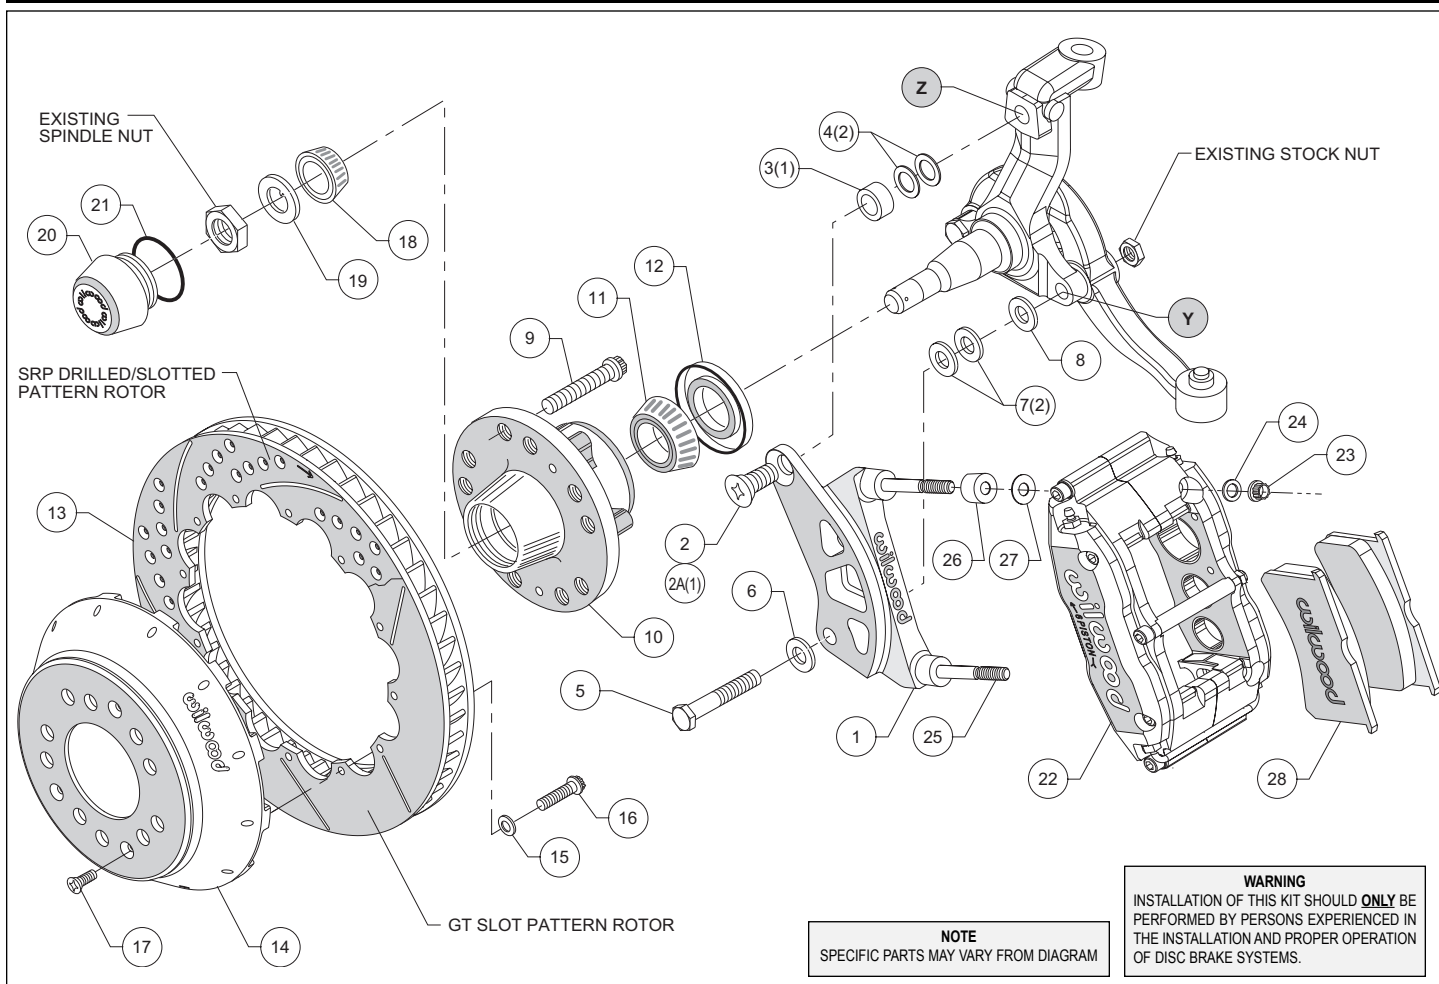
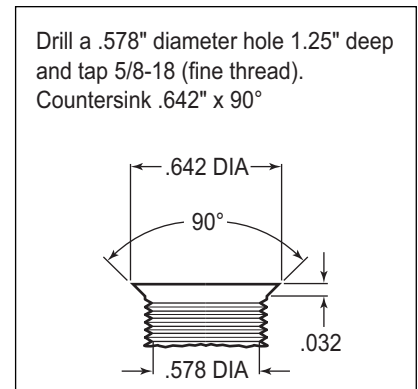

Figure 1. Typical Installation Configuration
Figure 3. Drill and Tap Detail
- NOTE:** 1964-66 spindles may require the following modifications (reference figure 1 and 3): Top anchor pin hole (Z) must be drilled and tapped to the dimensions as outlined in figure 3. Bottom rear steering arm bolt hole (Y) in the spindle and steering arm must be enlarged to .50" by drilling. A 1/2-20 backing nut (not supplied in kit) will need to be acquired to torque bracket / steering arm bolt (supplied in kit).
- Disc Application:** The caliper mount bracket assembly (1) should be installed first with clean, dry threads on the mounting bolts. Mount bracket (1) to face of dust plate mount pad of spindle using the bottom bolt (5), through washer (6) while positioning washer (7, Heidts spindle kit only) and shim washer (8) "if needed for bracket flatness" between bracket and spindle face, finger tighten only. Install the upper bolt (2A) with spacer (3) and flat washer (4, Heidts spindle kit only), ensuring flatness positioned between bracket and top hole of spindle face. Inspect for interference from casting irregularities, machining ridges, burrs, etc. If everything fits correctly, then remove the mounting bolts (2A and 5) and coat threads with red *Loctite*® 271 and reinstall. Torque bolt (2A) to 120 ft-lb. Torque bolt (5) to 77 ft-lb.